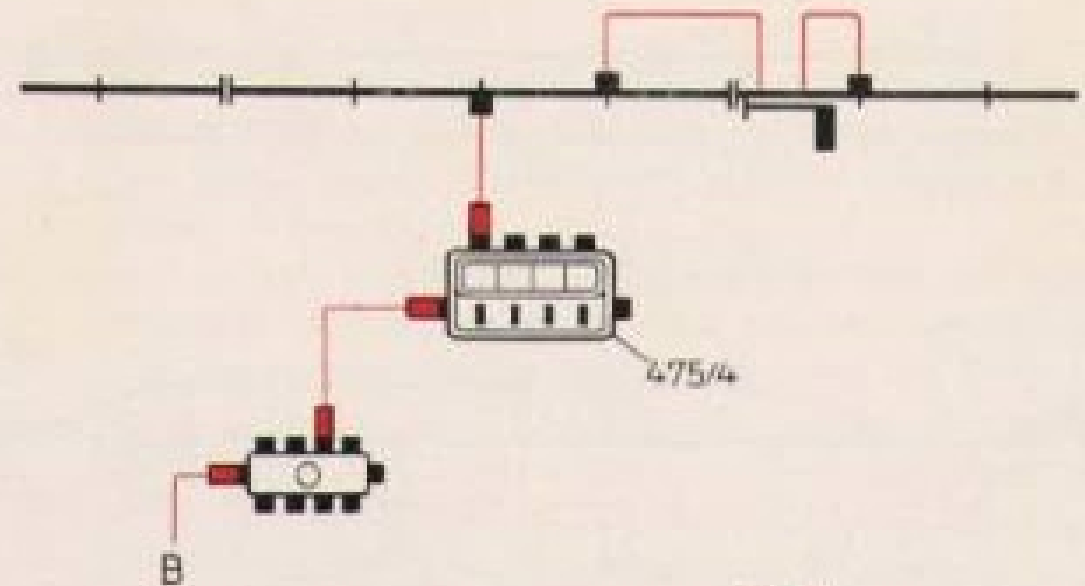
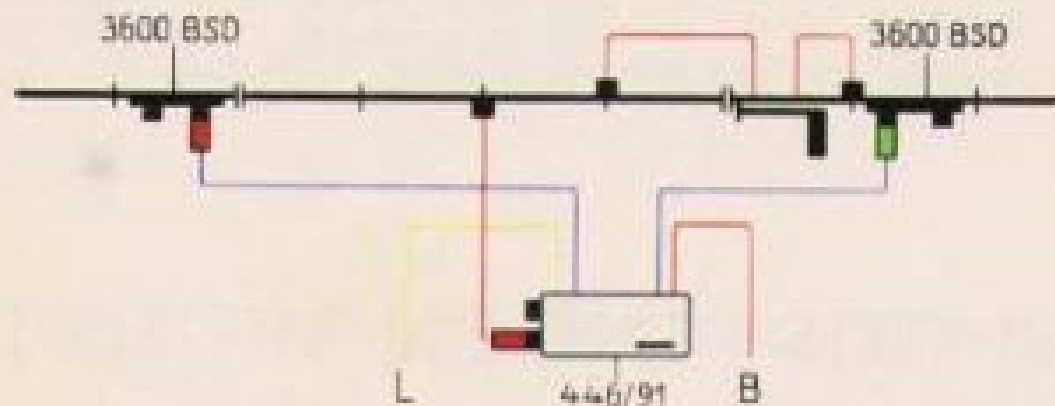
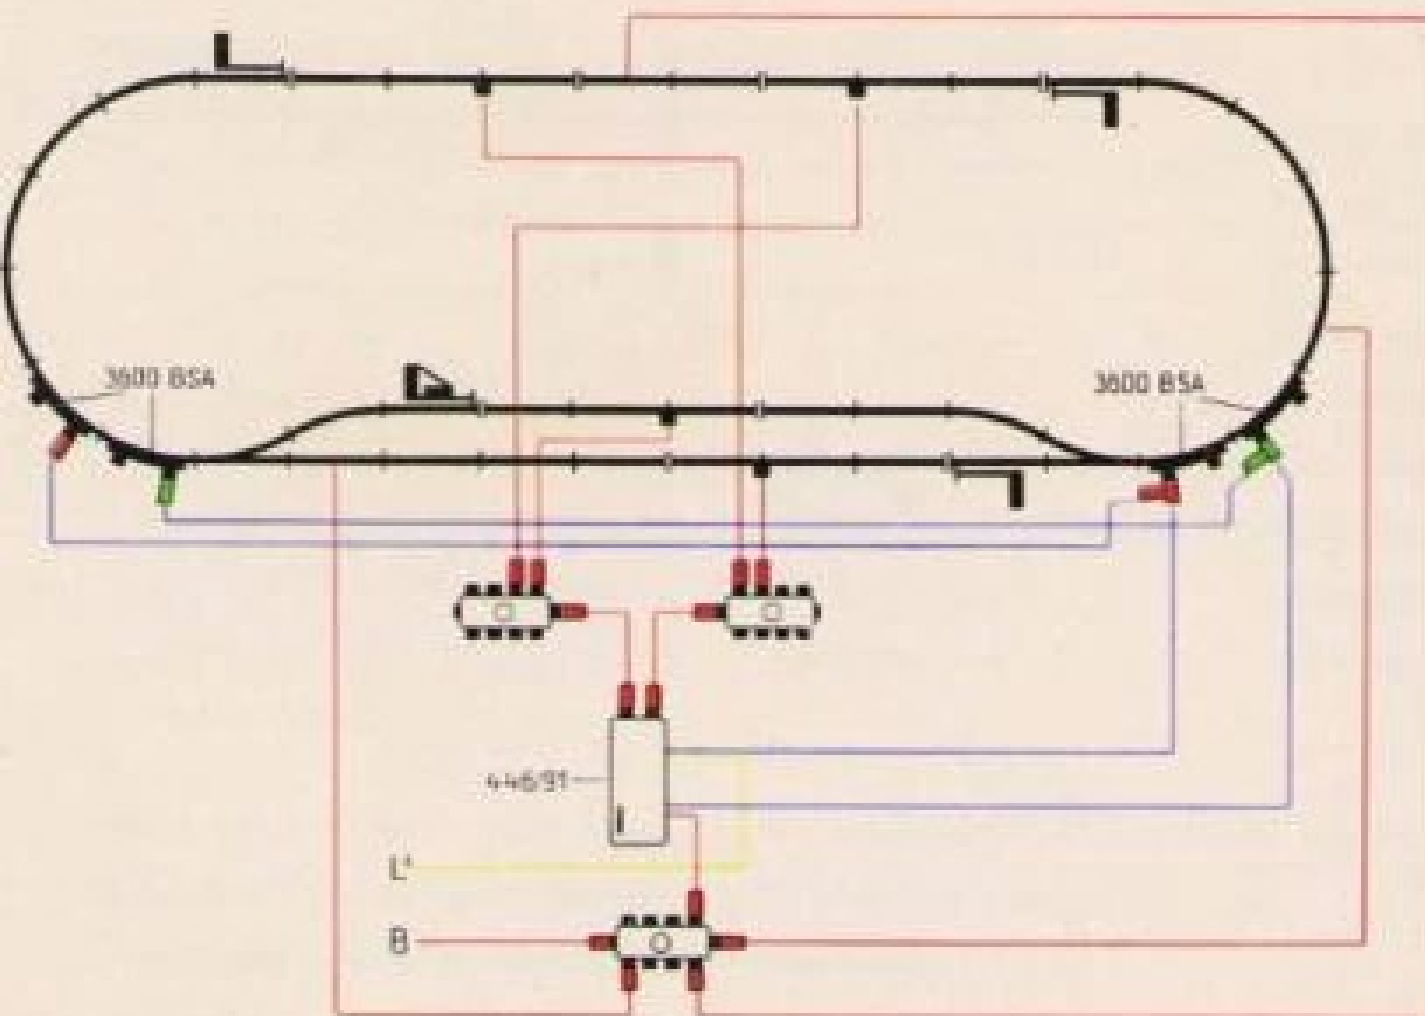

Fig. 24
Fig. 25 Connections when using universal remote switch 446/91
Fig. 26 Layout with 4 signals controlled by universal remote switch
2. Supply of current through control plate 475/4. The connections required are shown in Fig. 24.
The supply of current as shown in Fig. 24 can be automatically controlled by means of universal remote switch 446/91. The connections required are shown in Fig. 25. A remote switch is not required for each signal in every instance. Fig. 26 shows how to control 4 signals of a layout by means of one universal remote switch so that trains can pass in either direction without interference from left-hand signals.
The two sockets of the universal remote switch 446/91 are each connected to a control plate. One of these control plates supplies current to the insulated sections in front of the signals serving clockwise traffic and the other to those serving counterclockwise traffic. All other sections of the layout receive current from a third, distributor plate 470. Shown in Fig. 26 are only the cables supplying